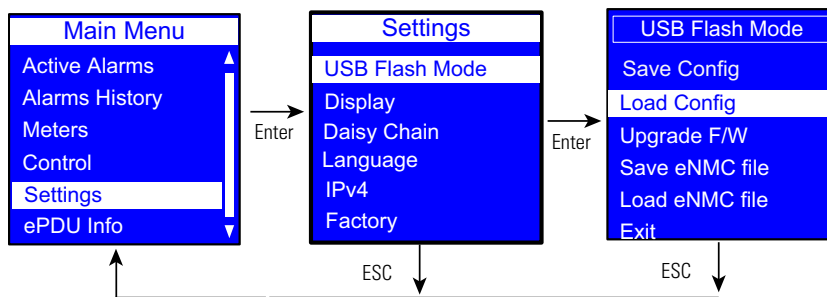

Figure 71. Example Load Config.
6. Select Load Config then click **OK** to start loading the ConfigurationData.xml file into the eNMC module (see Figure 71).